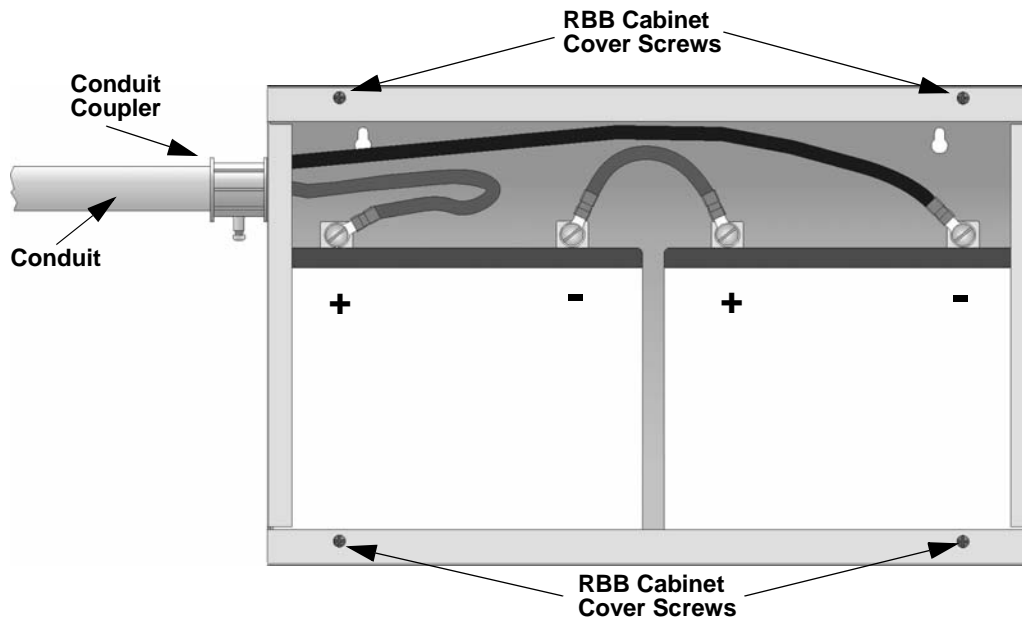

Figure 4-5 Battery Connections in the RBB Cabinet
- Run extended battery cable from control panel cabinet through conduit to RBB cabinet. See Figure 4-5.
Note: Figure 4-5 is an example of how the wire connections can be routed. However, any other cabinet knock-outs (on either the main control panel or the RBB cabinet), that are not previously being used may be utilized to connect conduit between the two cabinets.
- Connect battery leads to the backup battery terminals. See Figure 4-5.
- Insert the RBB cover screws into the cover mounting holes. See Figure 4-5.